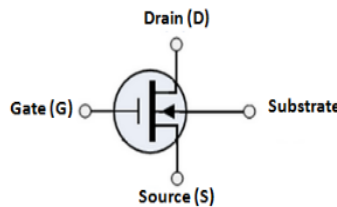

Fig. 4.16 Symbol for n-channel D-MOSFET
- The symbol for n channel D MOSFET is shown in Fig. 4.16 which is having four terminals.